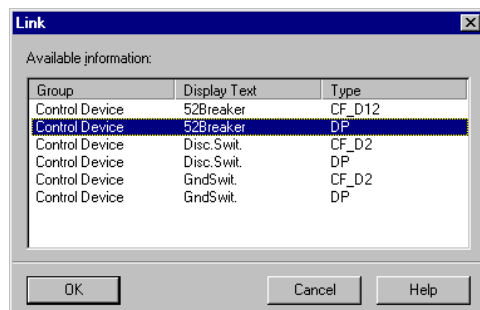

Figure 5-48 DIGSI® 4, Selection Window for Switching Equipment (example)
- The information corresponding to the equipment and configured previously in the configuration matrix can now be selected in a **Link** dialog window (see Figure 5-48), from which the user may click on the desired option and confirm with **OK**. In this manner, the user may link the graphical diagram with configuration settings.